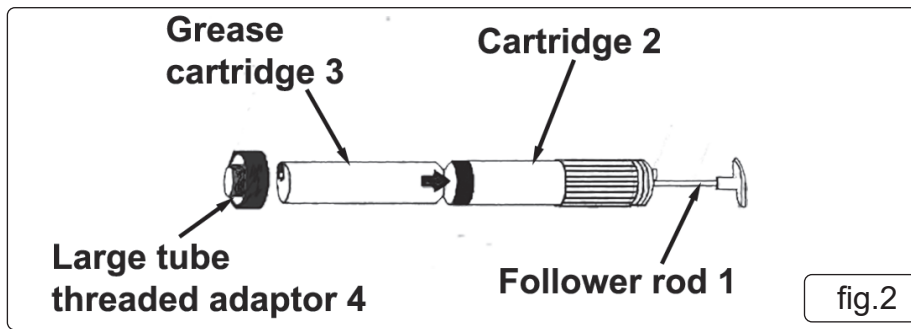

fig.2
NOTE: Remove the large tube threaded adaptor (fig 2 - 4) from the grease gun, if applicable. Turn the cartridge adaptor clockwise (left hand thread).
NOTE: Loading a grease cartridge (fig 2 - 3) into the large cartridge holder (fig 2 - 2) is similar in operation to loading the smaller cartridge.
4.6.1. Pull the follower rod out (fig 2 - 1) as far as possible.
4.7.1. Thread the large tube threaded adaptor (fig 2 - 4) into the grease gun housing, by turning it counter-clockwise (left hand thread). Hand tight only.
4.7.2. Thread the loaded large cartridge holder into the large tube threaded adaptor (fig 2 - 4).
4.7.3. Release the follower rod (fig 2 - 1) by pressing on the self-locking latch.